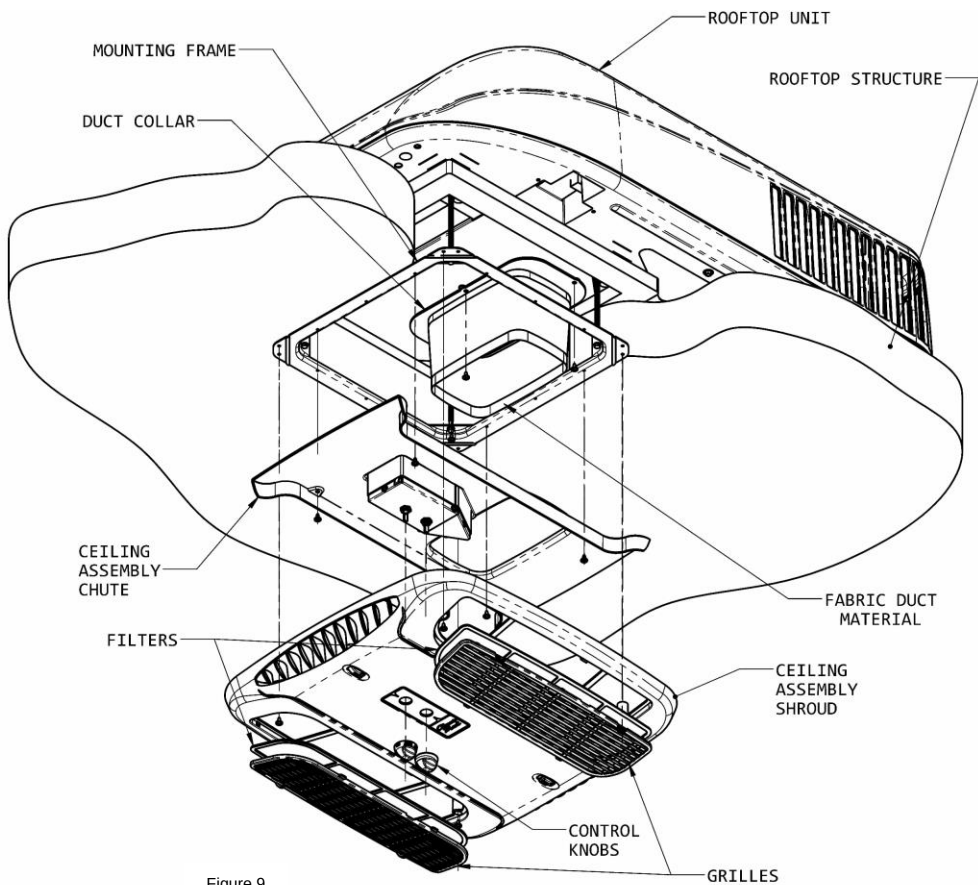

Figure 9
- B. Fold and break off the 3 tabs around the inner opening of the duct collar. Fasten the duct collar to the air conditioner basepan with 3 provided screws (See Figure 9).
- H. Raise the ceiling assembly chute to the unit mounting frame and secure the chute with four provided screws (See Figure 9).
- K. Raise the ceiling shroud, ensuring it meshes with the chute, and secure to the mounting frame with the four provided screws. (See Figure 9).